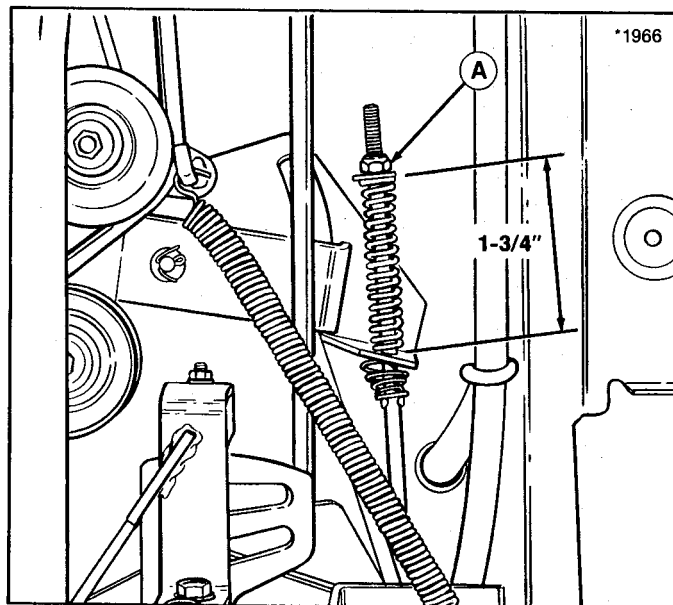

Figure 32.
2. Spring should be compressed to 1-3/4" long ( $\pm 1/8"$ ). Turn adjustment nut (A, figure 32) as necessary for correct spring length.